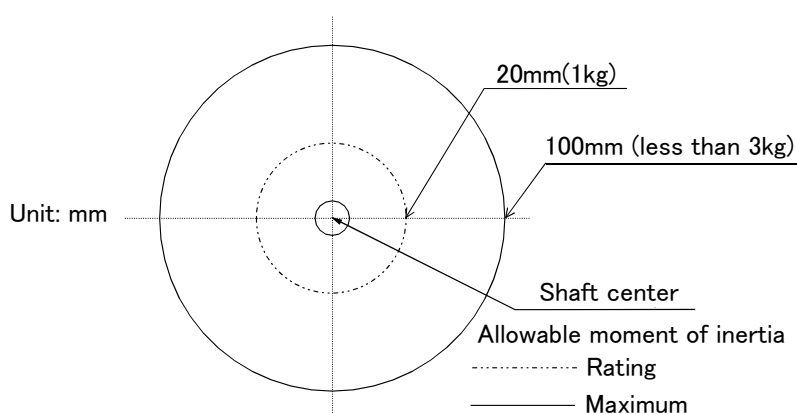

Fig.2-1 : Position of center of gravity for loads (for loads with comparatively small volume)
- (1) The tooling should have the value less or equal than the smaller of the allowable moment of inertia found in Page 9, "2.1.1 Basic specifications".
- (2) Fig. 2-1 shows the distribution dimensions for the center of gravity in the case where the volume of the load is relatively small. Use this figure as a reference when designing the tooling. Please use the robot in the allowable moment of inertia of maximum moment of inertia shown in Fig. 2-1.